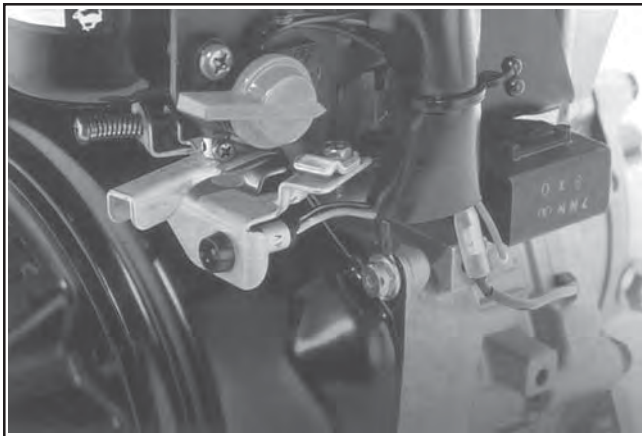

Figure 9-20. CS4, CS6 Silver Screw with Ground Lead.
1. Remove the hex flange screws securing the blower housing. The screw in the upper right-hand position may also secure a ground lead on some models. See Figures 9-20 and 9-21.